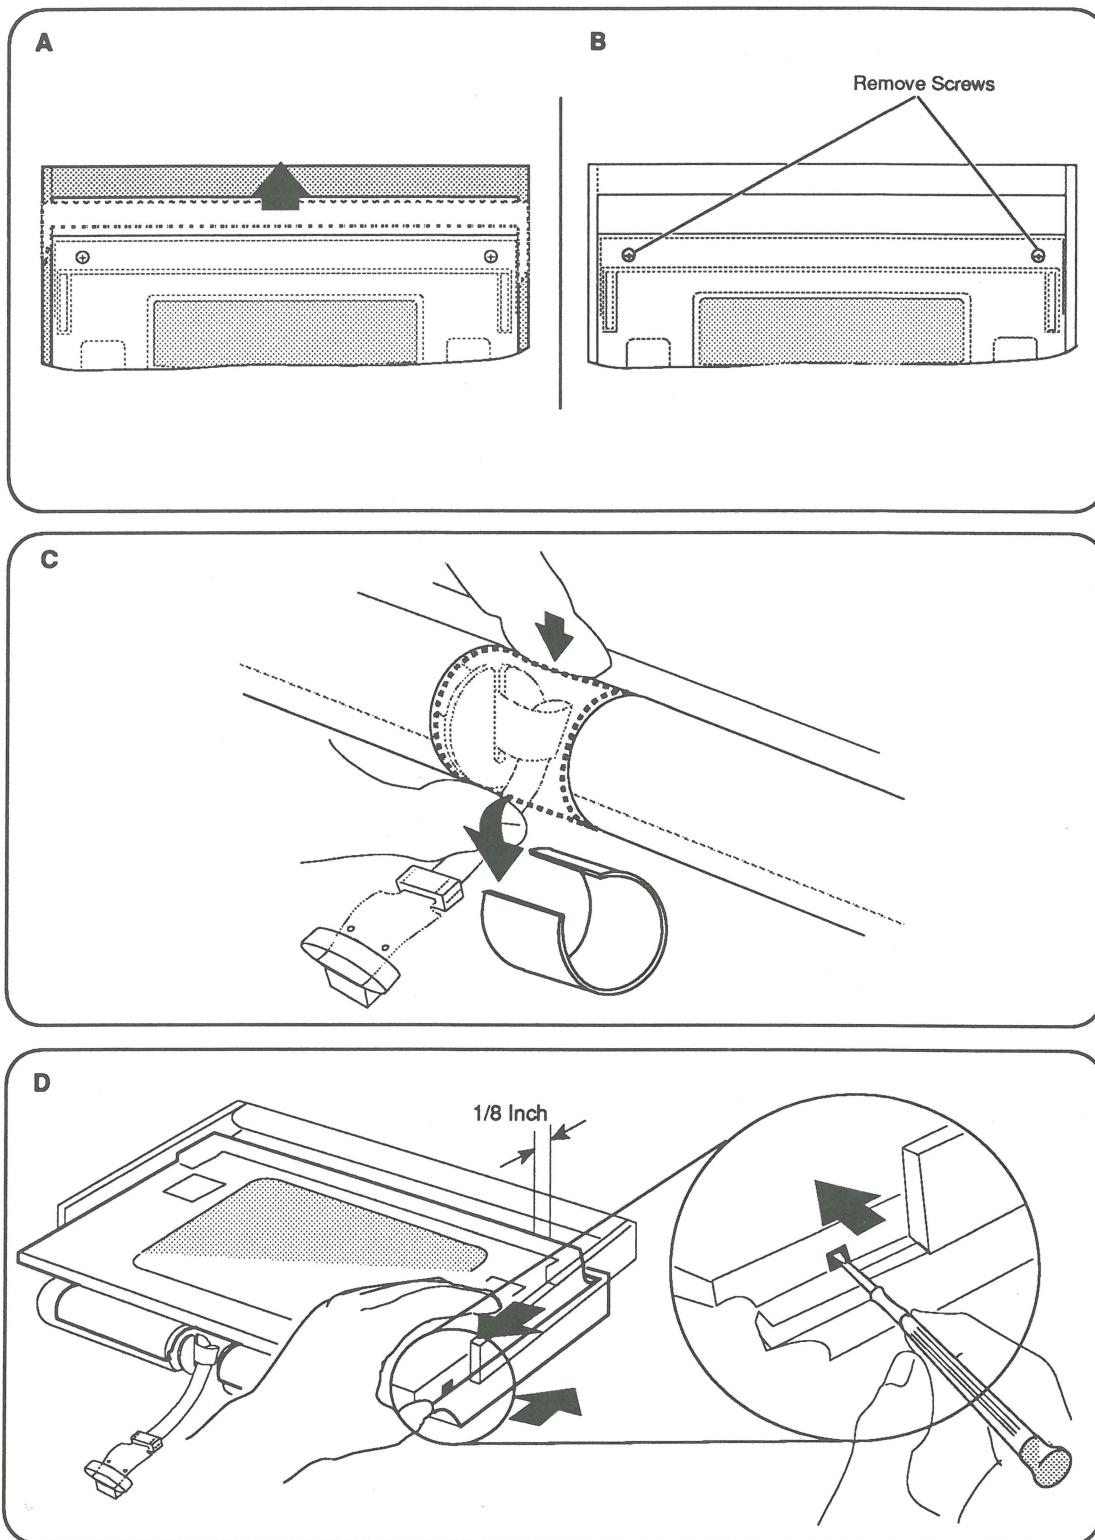

FIGURE 16
2. **Figure 16-A.** Slide the carrying handle away from the display to its fully extended position.
3. **Figure 16-B.** Remove the two Phillips screws at the upper-right and upper-left corners of the display bezel.
4. **Figure 16-C.** Remove the center pivot cover by turning the opening of the cover toward the display and then pulling the center pivot cover away from the display housing.
5. **Figure 16-D.** Release the right side of the display bezel by inserting the jeweler's screwdriver into the display latch opening on the left side of the display housing as shown in Figure 16-D. Hold the screwdriver with your right hand and place your left hand on the display as shown in the illustration. Push the screwdriver into the opening until you hear a click and then pull the display bezel toward you with your index and middle fingers while pushing the display housing with your thumb. The two parts separate about 1/8 inch.